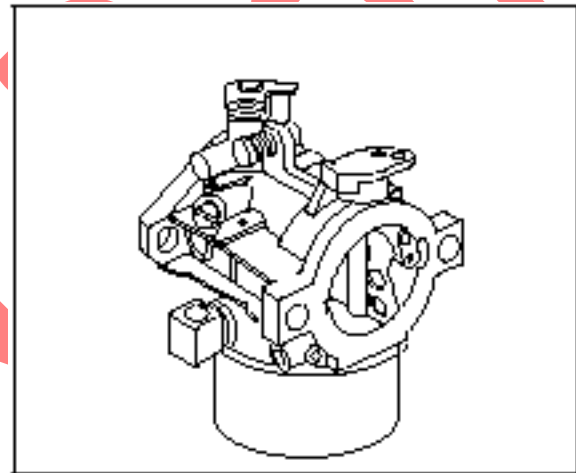

Fig. 123
These carburetors have a fixed high speed main jet with a screw for idle mixture adjustment (B) and a screw for idle speed adjustment ([A] Fig. 123). The different carburetors are identified as LMT1 and up.
The letters LMT are cast into the body of the carburetor while the identification numbers (C) are stamped into carburetor mounting flange next to idle mixture screw or above the fuel inlet ([D] Fig. 123).